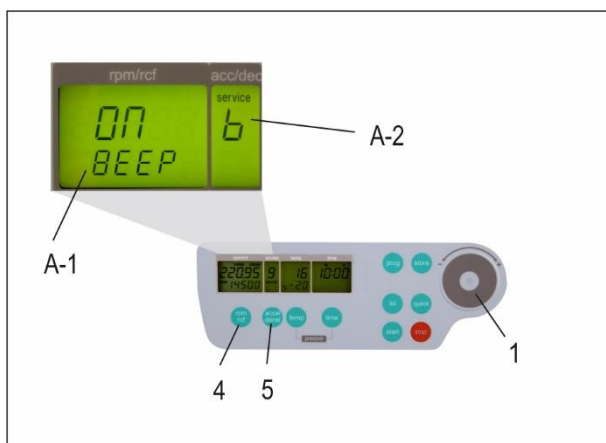

Figure 10
Proceed as illustrated, under point 1.8.1, to enter this program mode, press the key, "accel/decel" (5). In the display; "accel/decel" (A-2) flashes the word, "service". Select the letter, "b" with the control field (1). As a result, appearing in the display, "rpm/rcf" (A-1), the word "ON/BEEP". By pressing the key, "rpm/rcf" (4), the keyboard sound (On) or (Off) can be turned on, with the control field (1), (see Figure 10).